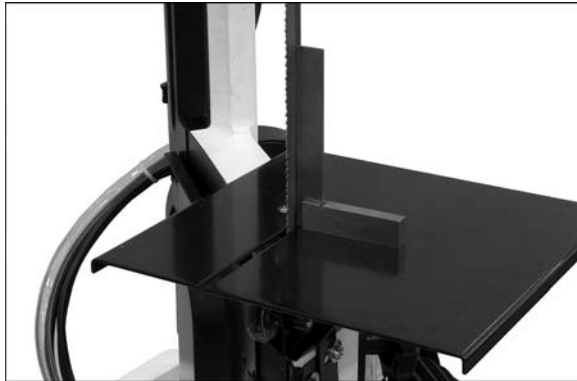

Figure 6
5. Verify that vertical cutting plate is square to blade, using a machinist's square on the plate and against the blade (Figure 6).